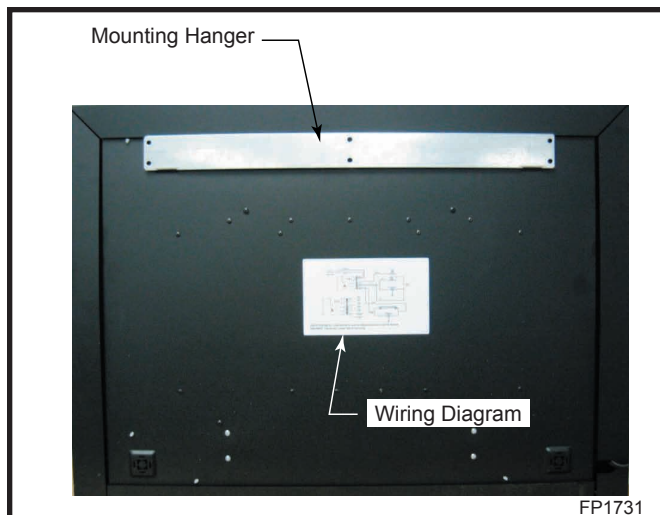

Fig. 2 Rear view of Inspire with mounting hanger in place.
1. Become familiar with the mounting hanger and how it fits to the rear of the electric heater main body. (Fig. 2)